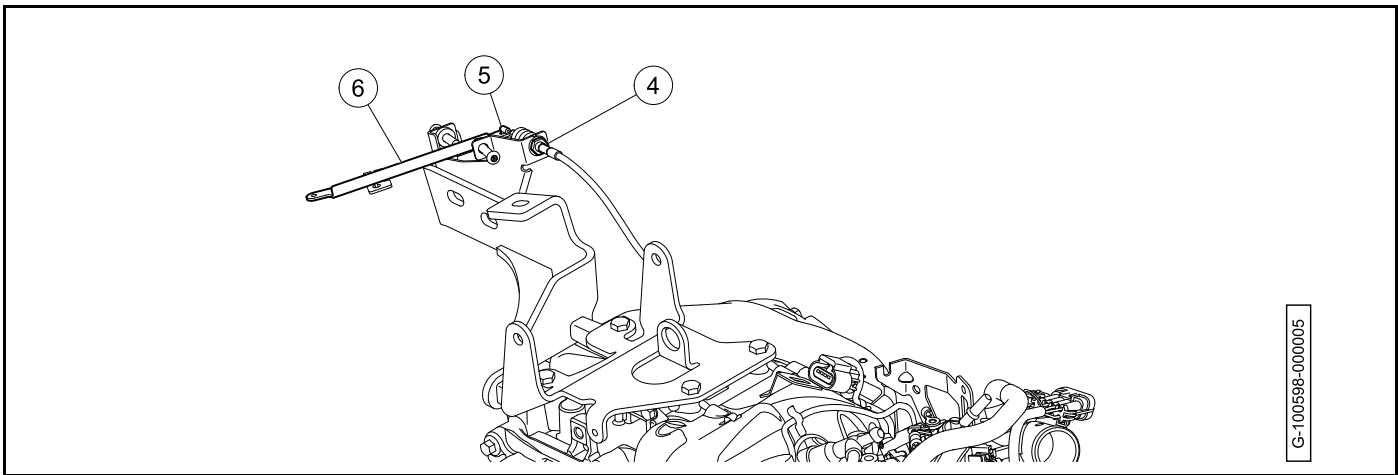

Figure 22-4 Governor Cable Installation - Governor Arm
- 2.1. Slide bellows off threaded end of cable housing, separate jam nuts and place threaded end into governor bracket (4) (**Figure 22-4, Page 22-4**).